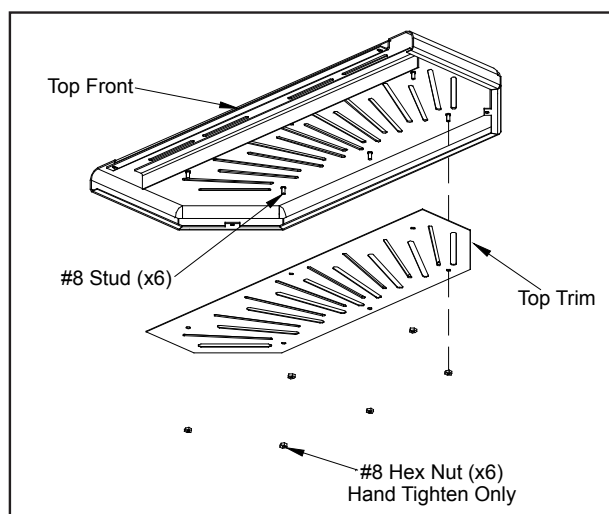

Figure 36: Top front with top trim
Place the new trim on its corresponding studs (see Figure 36) and finger tighten the six (6) #8 hex nuts.